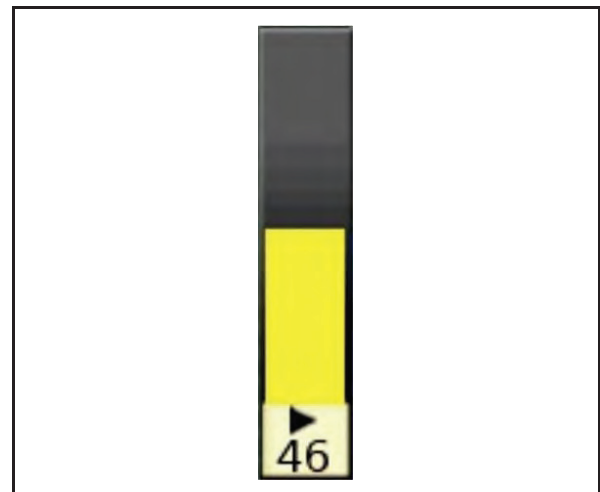

Fig. 162
2. Press the key button (1) of the multi-function joystick to the top (2) or bottom (3) and keep it pressed.
- The discharge door opens or closes. At the same time, the terminal displays the opening status of the discharge door as a yellow bar and percentage value (Fig. 162).